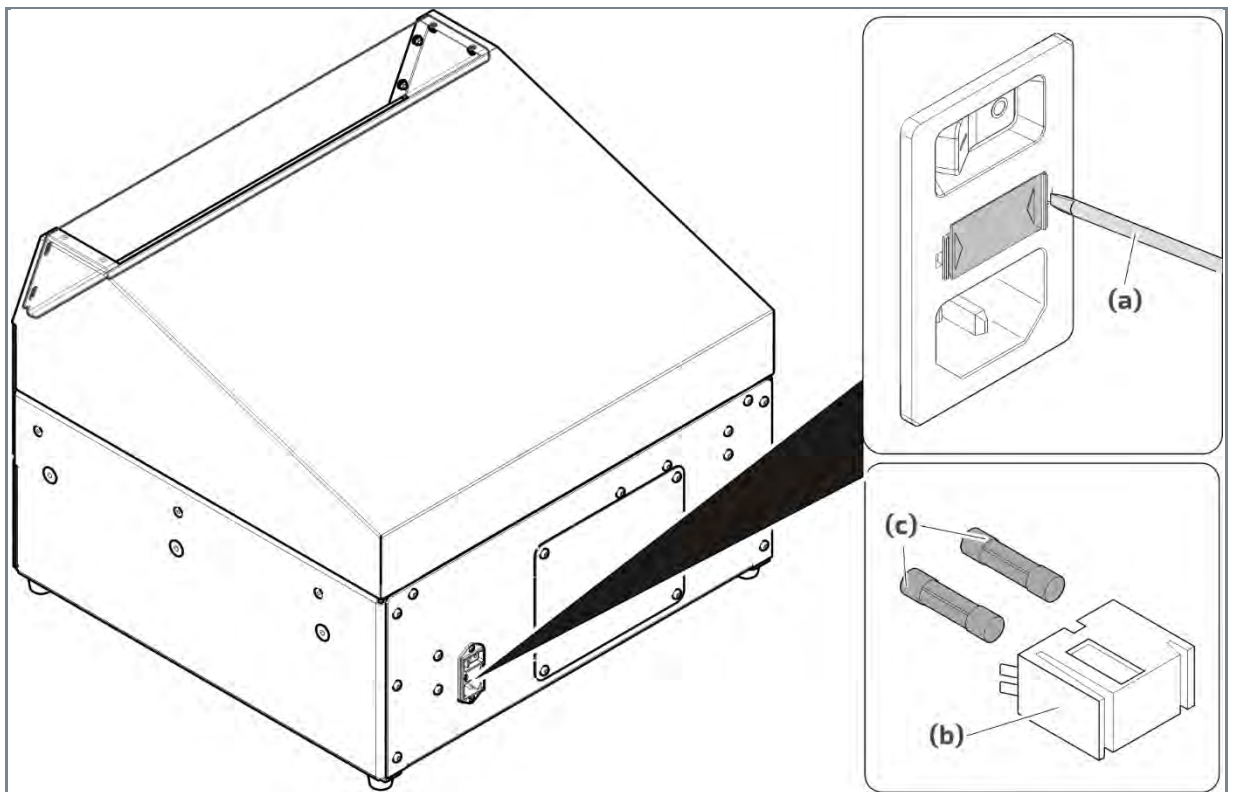

Fig. 9 Replacing the fuse
2. Remove the fuse holder **Fig. 9 (b)** from the power supply module using a screwdriver **Fig. 9 (a)**.
3. Remove the fuses **Fig. 9 (c)**.